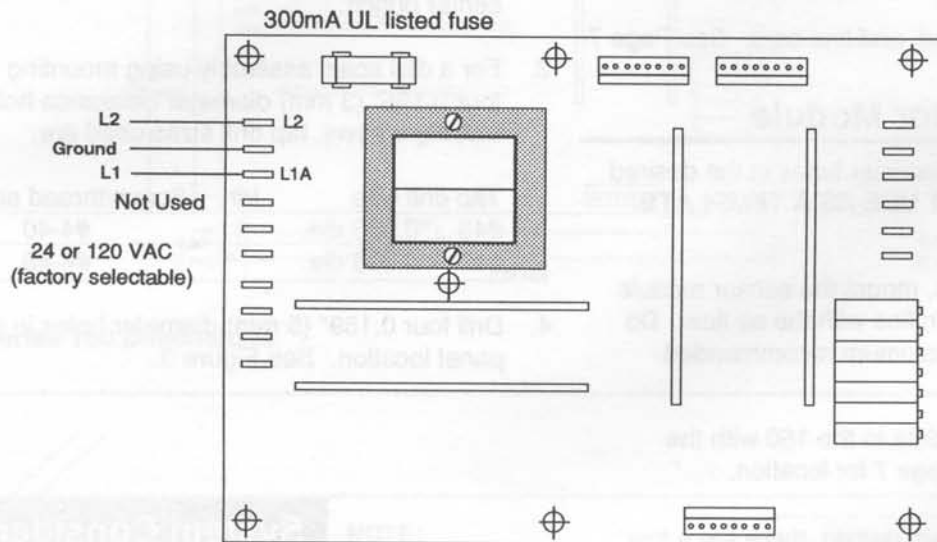

Figure 5 - 24 or 120 VAC Power Wiring . (160X-2X03-X000) or (160X-1X03-X000)
3. Wire the control per Figure 5 or 6 on Page 6.